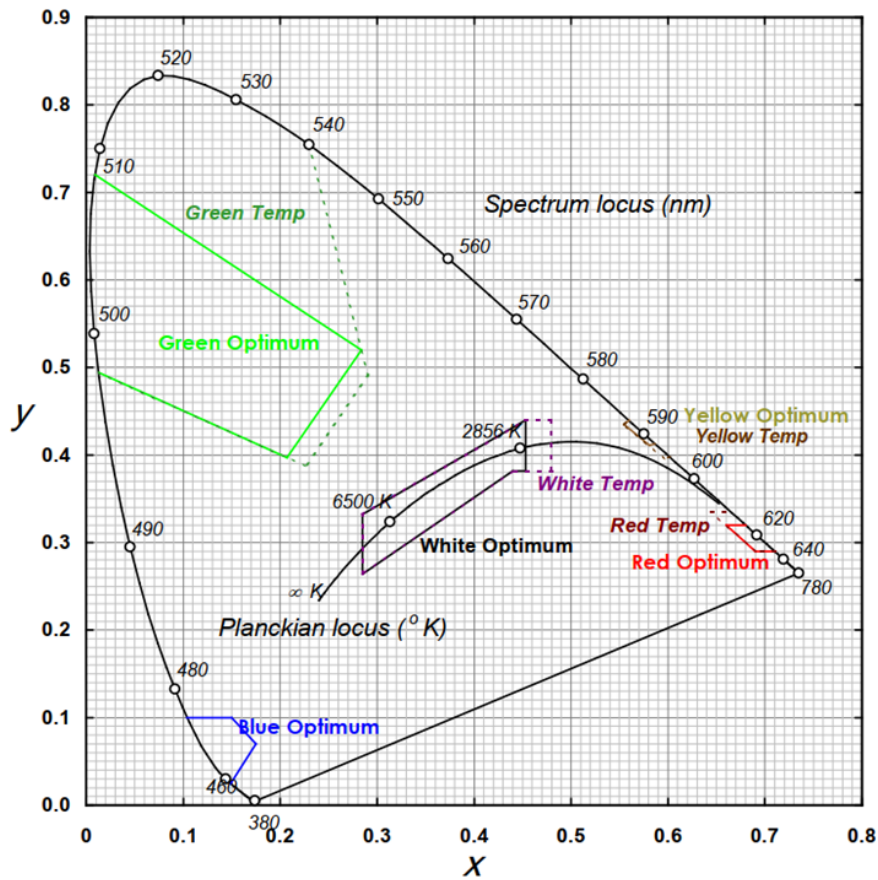

Figure 1 Optimum Chromaticity Regions
3.2.3.1 The light signal provided by green, red, white, and yellow Lanterns must fall within the boundaries of the **optimum regions** (Figure 1 and Table 4) and satisfy the chromaticity requirements of IALA E-200 (reference 1.6.5).